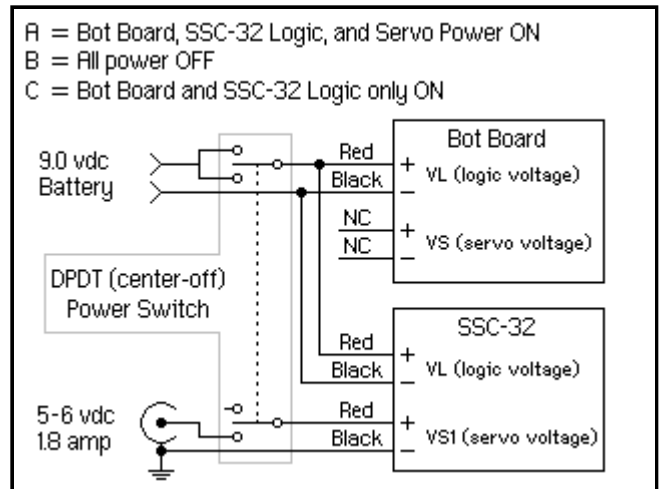

Figure 10.
It is convenient to be able to turn on the servos separately from the electronics so programs can be downloaded without the servos moving. By using a DPDT switch power can be applied to the Bot Board and SSC-32 electronics (VL) in one position, or power can be applied to VL and the SSC-32 servo power input (VS) in the other position. Figure 10 illustrates this.